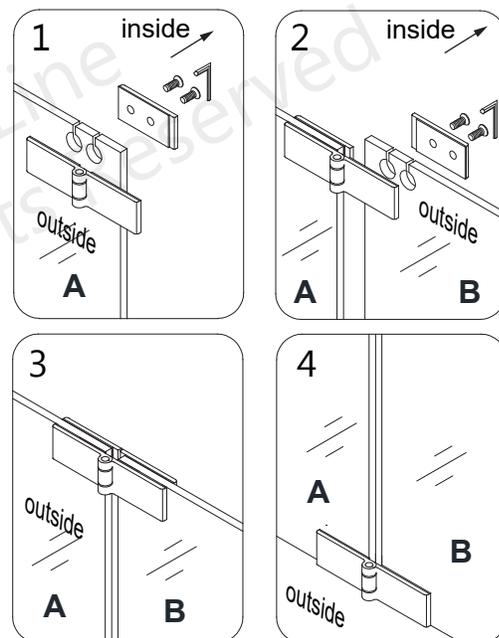

**Fig 3**
**3. Attach the Roller Assemblies (top and bottom) (#12) onto the correct holes on Door Glass B (#05) (this is the glass with the hole in the center for the knob). Install the Roller Assemblies (top and bottom) (#12) onto the glass with the bolts facing toward the outside of the shower. Be sure that all gaskets are in place to prevent glass-to-metal contact. (Fig 3)**